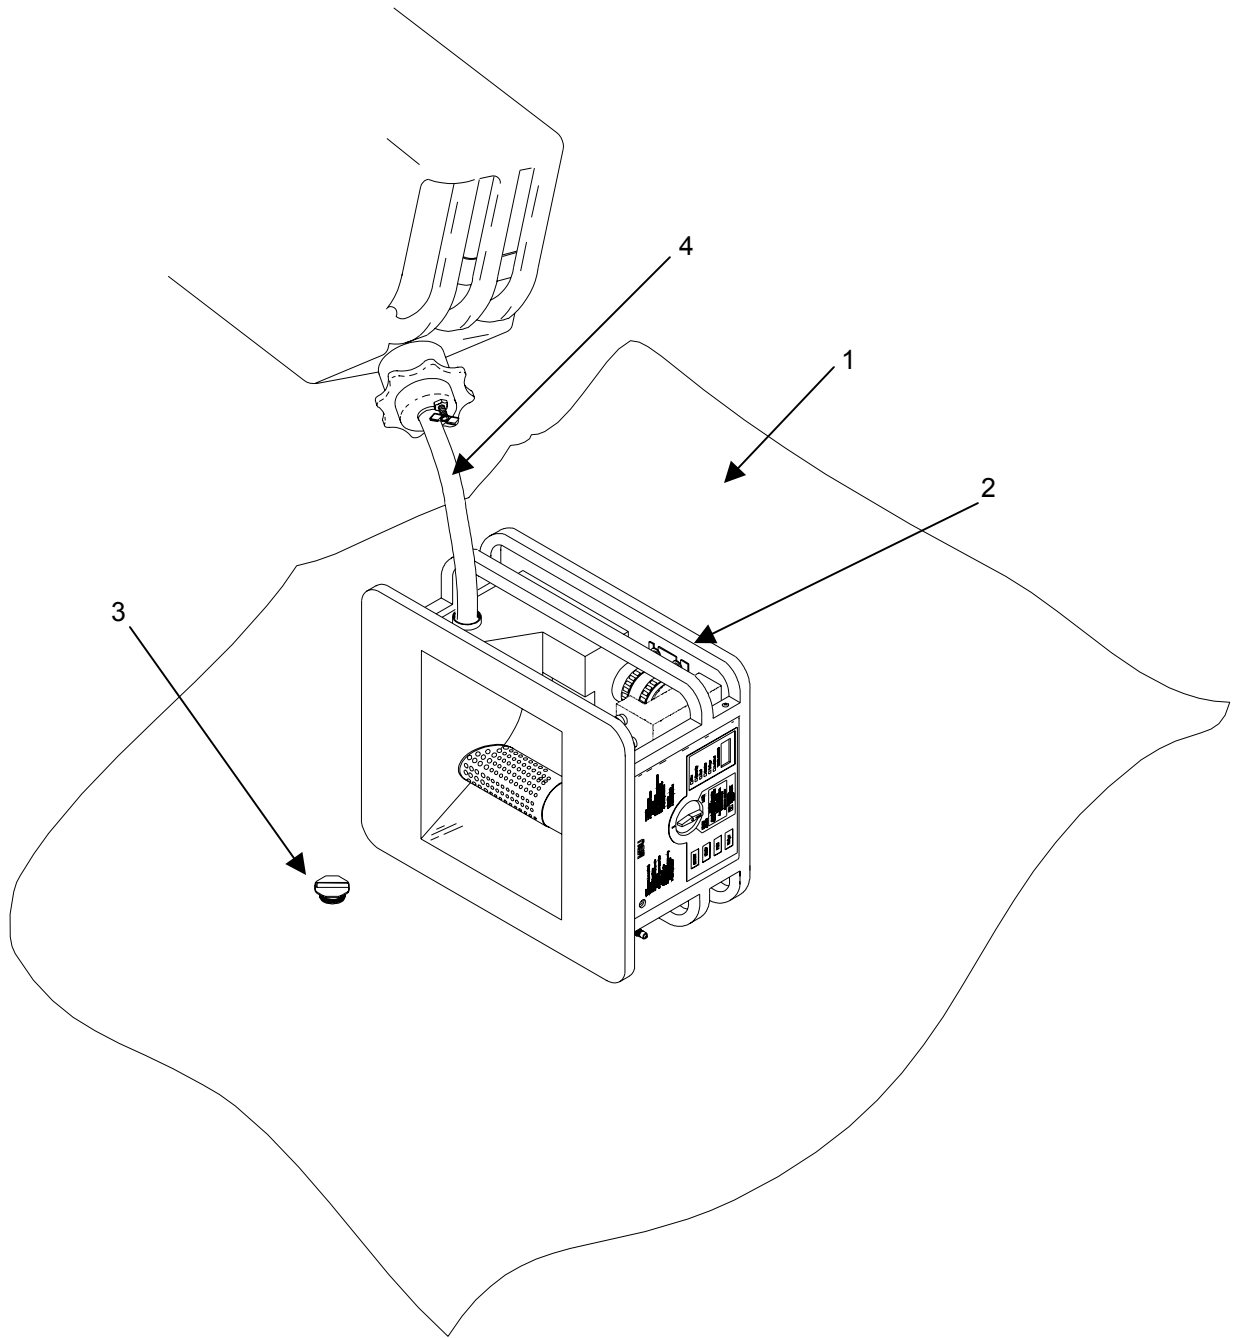

Figure 11. Manual Fueling Procedure
1. In cases where the MBU is required to be fueled manually, petroleum absorbent material (**figure 11, item 1**) will be placed under the burner to catch any fuel that may be spilled.
3. To fuel manually, place the MBU (**figure 11, item 2**) on the absorbent material on its side so that the fill plug (**figure 11, item 3**) is on top as shown. Remove the fill plug.
4. Fill fuel tank using a fuel can equipped with spout (**figure 11, item 4**) to the bottom of filler neck opening with JP-8 or approved alternate diesel fuel, and re-install fill plug (**figure 11, item 3**).